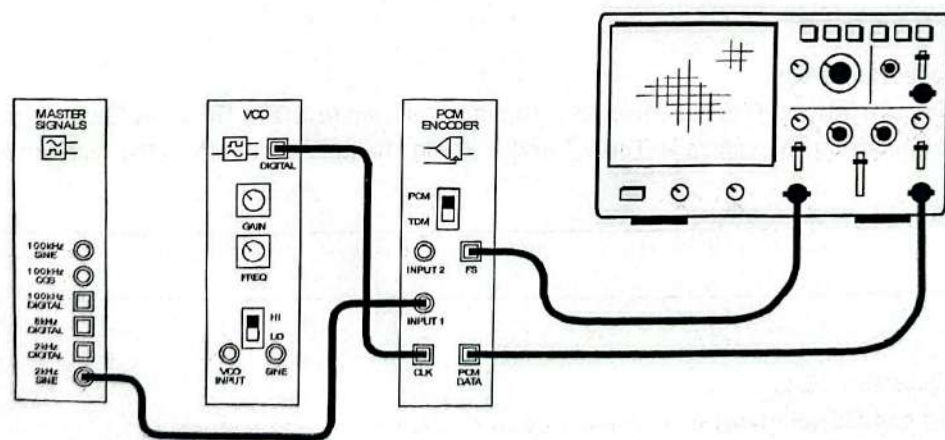

Figure 9
41. Connect the set-up as shown in Figure 9 below.